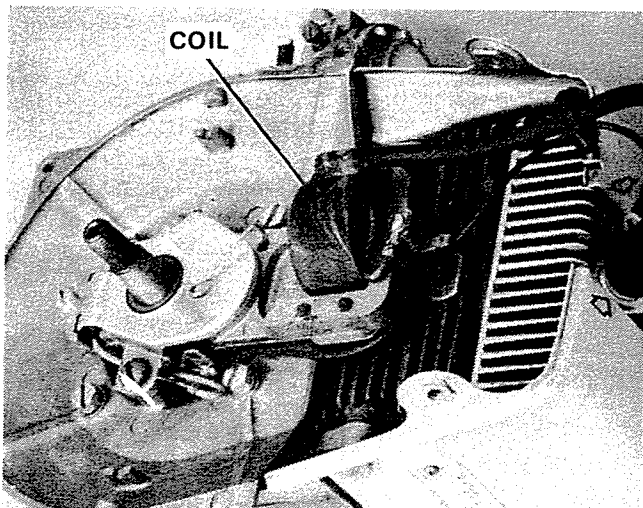

Figure 14. Disconnecting Coil Leads.
2. Disconnect ground and spark leads. Figure 14.